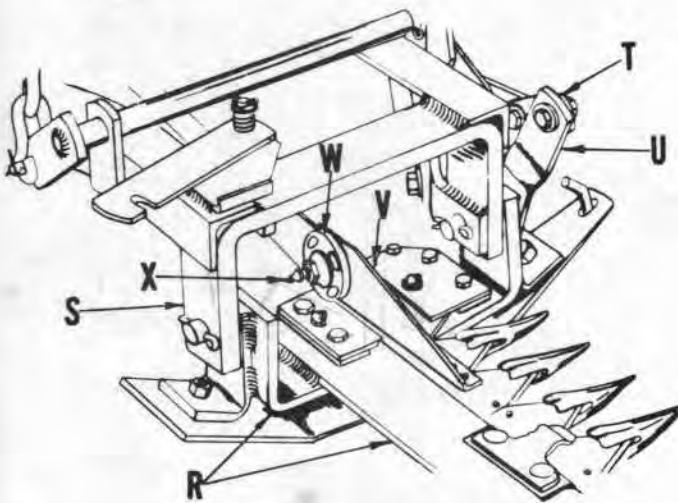

FIG. 5
6. Slide cutter bar and mounting bracket weldment (R) into position shown in Fig. 5, beneath yoke weldment (S). Pins of mounting bracket weldment enter holes in yoke weldment. Secure with the two cotter pins shipped in bag of parts.